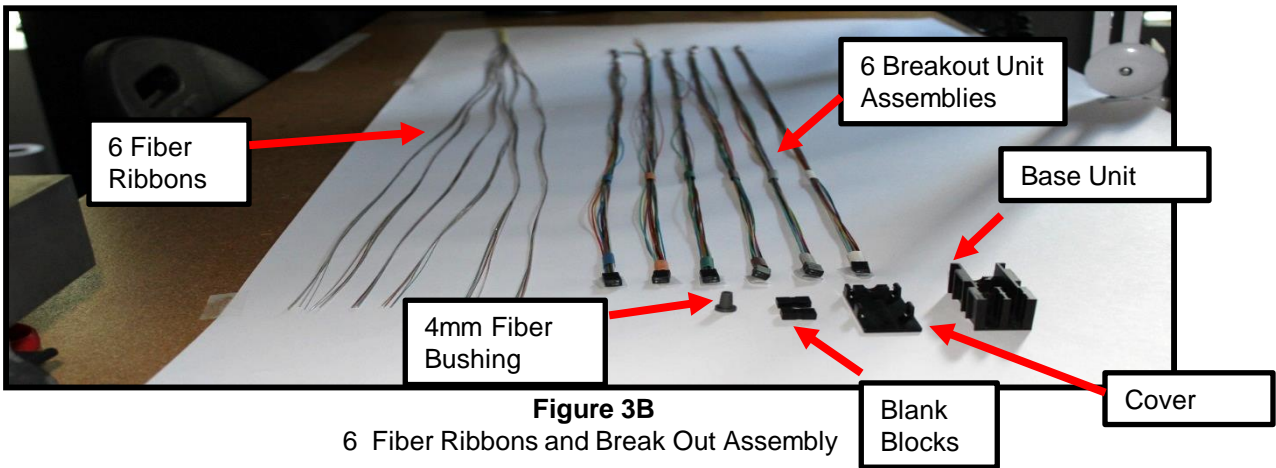

Figure 4
5.3.1 Use MA-2 kit to remove the ribbon materials from the 6 pliable ribbons to prepare them for installing into the breakout kit. **(See Figure 4 & 5)**